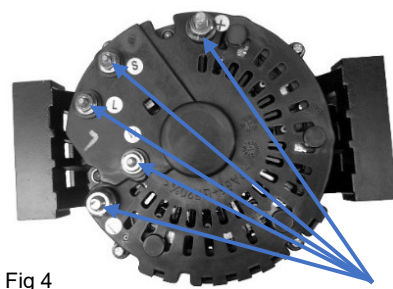

Fig 4
- 4) Install M5 and M8 terminal hardware. Fig 4.